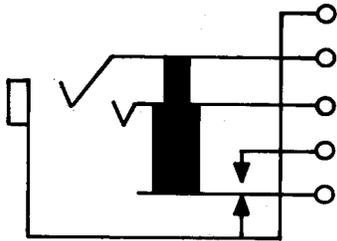

Fig. 9—227A Jack
2.09 227A: This single mounted jack (Fig. 9) is used with 1D, 1E, 153, 209, 241, 305, 327, 328, 347, 373, and 464 plugs. This jack is heavily insulated.